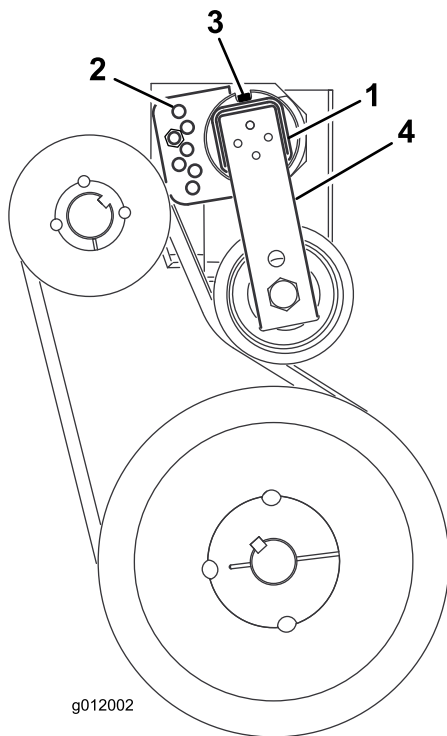

Figure 14
2. Remove capscrew and nut securing tensioner guide to blower frame (Figure 14). Belt tension will be released when capscrew is removed.